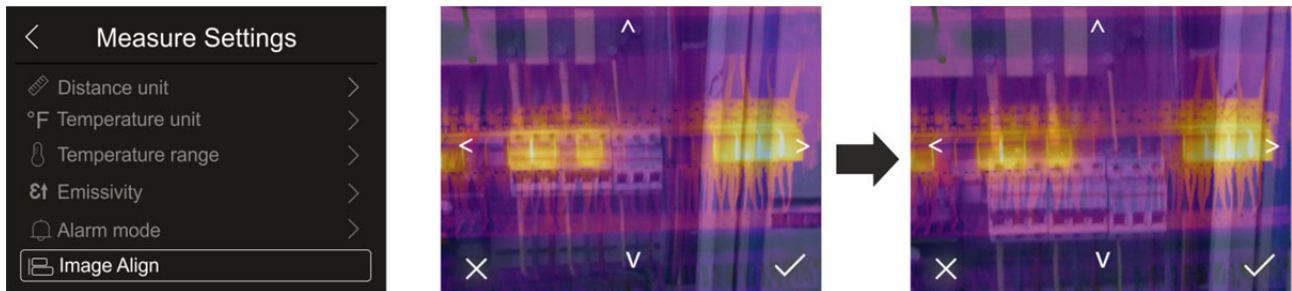

Fig. 29: Alignment of the image on the display
1. Touch the item "Image Align". Fig. 29 – middle is shown on the display. In this figure, the two images with a low infrared value are overlapping.
2. Touch the 4 arrows on the display in order to move the IR image by overlapping it onto the visible one (see Fig. 29 – right side).